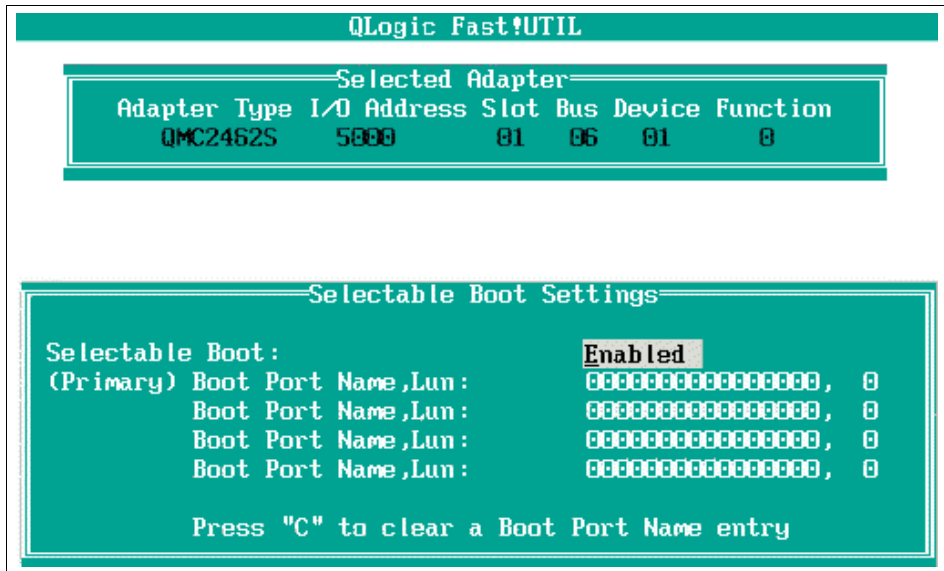
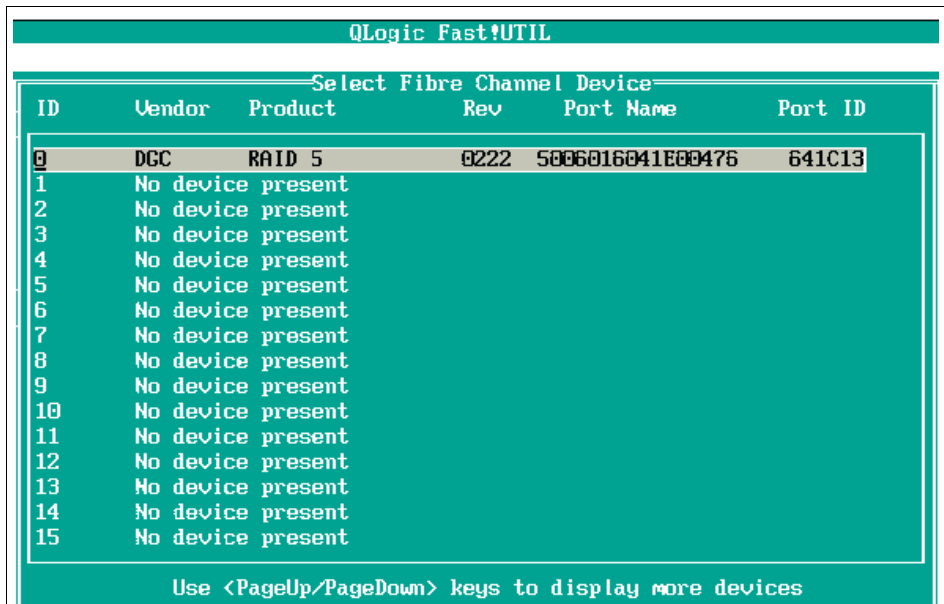

Figure 8-48 Selectable Boot Settings window
Figure 8-49 Select Fibre Channel Device windows
1. In Figure 8-48 on page 263, cursor down to (Primary) Boot Port Name, LUN: and press Enter. You will see a window similar to Figure 8-49 on page 263.